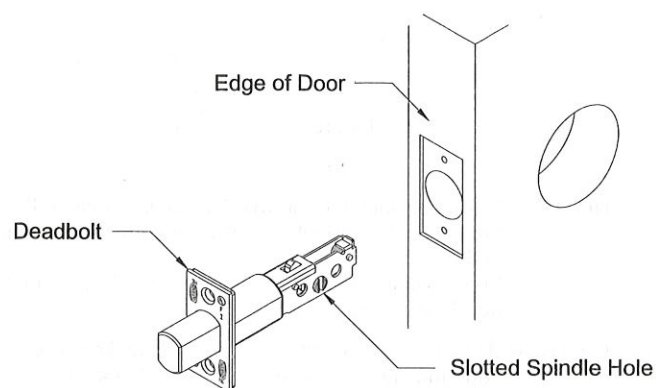

Figure 5
- Insert the deadbolt with slotted spindle hole at the bottom of the assembly. See Figure 5.